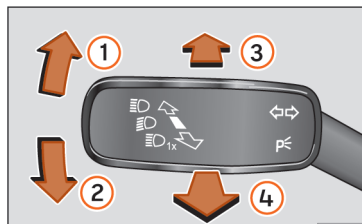

Fig. 73 Turn signal and main beam lever.
- From the base position, press the turn signal and main beam headlights lever forwards >>> Fig. 73 .
- **EITHER:** if main beam assist is on, pull the turn signal light and main beam headlights lever back >>> Fig. 73 .